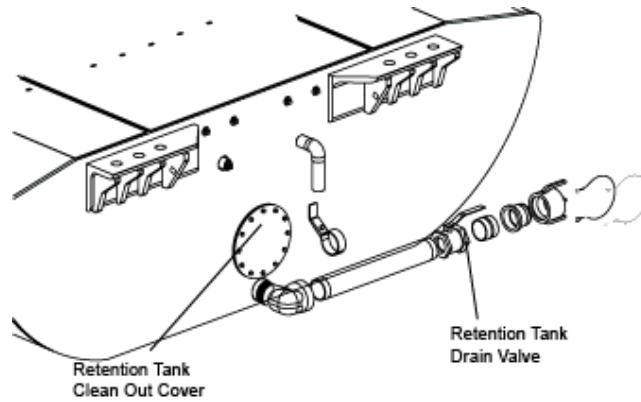

Figure 1
1. Remove lock pins from cam lock drain cap (see figure 1).